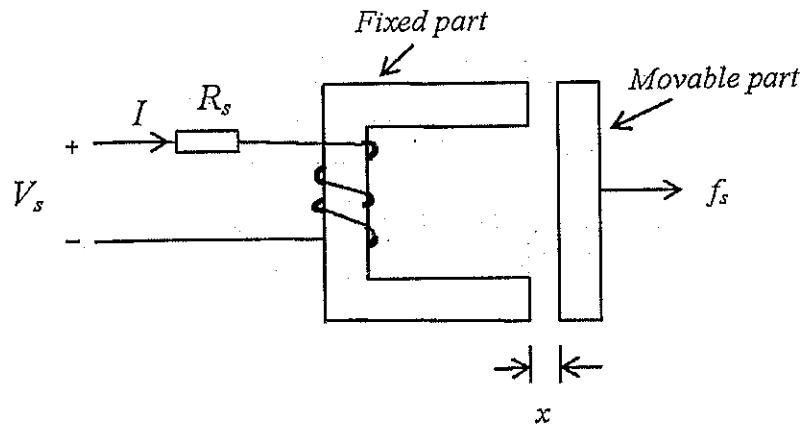

Figure 2
- (b) A magnetic circuit is as shown in Figure 2, where f_s is the force exerted on the movable part. Each of the fixed and movable parts has a cross-sectional area of 12 cm^2 . The fixed part has a winding of 200 turns. Determine the supply voltage V_s required to keep the movable part at a distance of $x = 1.5 \text{ mm}$ from the fixed part if $R_s = 25 \Omega$ and the magnetic force acting on the movable part is $f_s = 167 \text{ N}$. Also, determine the energy stored in the magnetic field for $x = 1.5 \text{ mm}$. The permeability of free space μ_0 is $4\pi \times 10^{-7} \text{ H/m}$. You may neglect the reluctances of the fixed and moveable parts in your calculations.